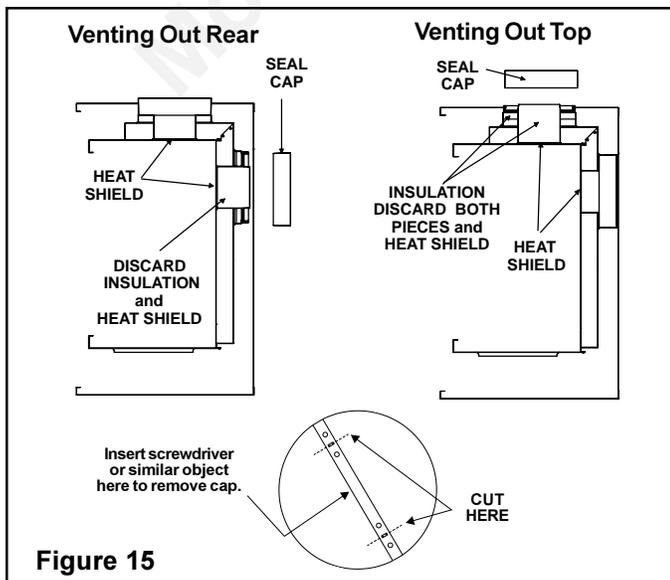

Figure 15
Remove the installed rear seal cap from the rear starting collars by cutting the strap at each end. (see Figure 15). Follow the vent configuration tables accordingly.
**WARNING: THE TOP HEAT SHIELD (INSIDE THE FIREBOX) MUST REMAIN ATTACHED IF THE VENT SYSTEM IS ATTACHED TO THE REAR STARTING COLLARS. SEE FIGURE 15.**
Remove the two screws in the top vent collar seal cap and remove the top vent collar seal cap and two pieces of insulation inside the top two starting collars (See Figure 15).